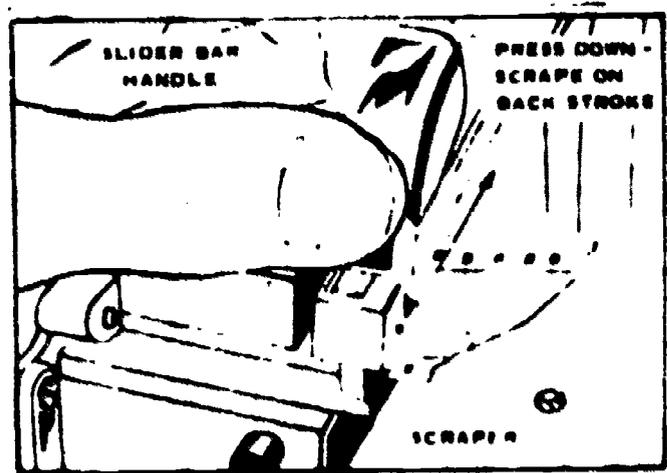

Figure 3-9. Preparing Film End by Scraping
10. Press down to engage the scraper blade with the film and push the scraper unit back. (See Figure 3-9.) The scraper unit is under spring tension and must be held firmly against the film in the entire backstroke in order to remove the emulsion properly. Using both hands during the scraping operation is helpful, though not absolutely necessary. Correct pressure for the scrape can be determined only through individual use. Do not attempt to scrape the film while dragging the scraper unit outward. Torn film will result.